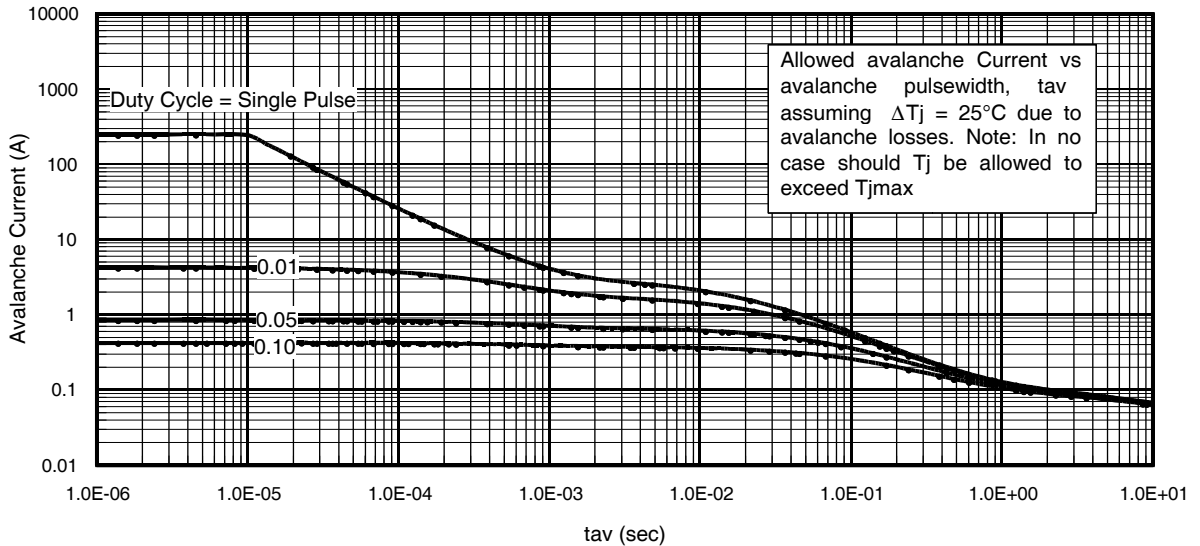

Fig 12. Typical Avalanche Current vs. Pulsewidth
Notes on Repetitive Avalanche Curves , Figures 12, 13:
7. ΔT = Allowable rise in junction temperature, not to exceed T_{jmax} (assumed as 25°C in Figure 12, 13).